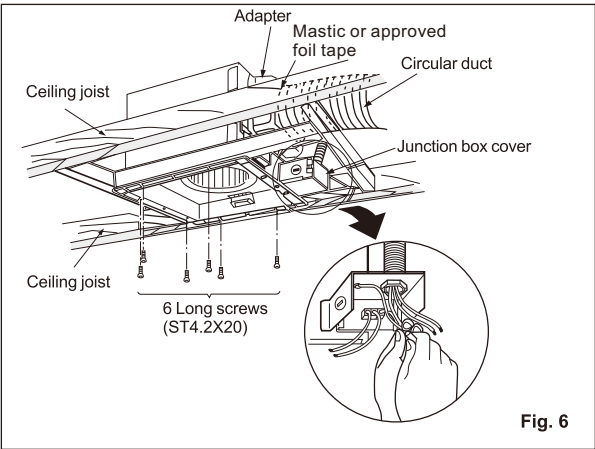

Fig. 6
- 3. Insert the circular duct (6 inches) to the adapter, Seal duct to duct adapter with mastic or approved foil tape. Remove the junction box cover and secure conduit to junction box knockout hole. (7/8 inch) (Fig. 6)